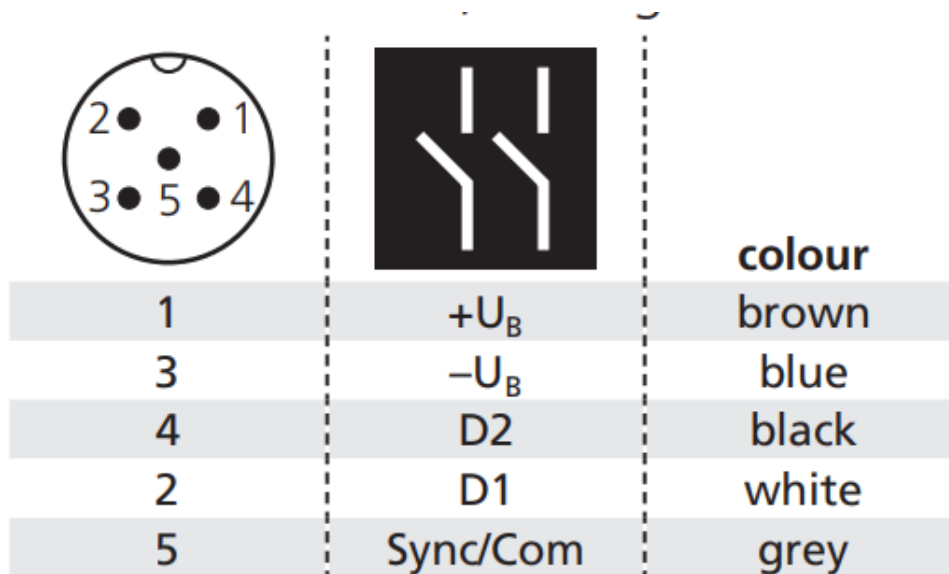

Fig. 1: Pin assignment with view onto sensor plug and colour coding of the microsonic connection cable
- ➔ Plug in the connector cable to the M12 connector, see Fig. 1.